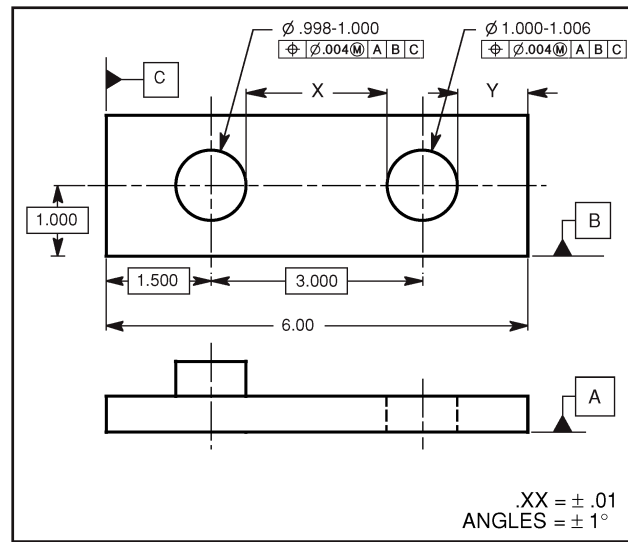

Figure 3
- Read the drawing given in Figure 3 with the pin and the hole and write the descriptions for the feature control frames available in the figure.